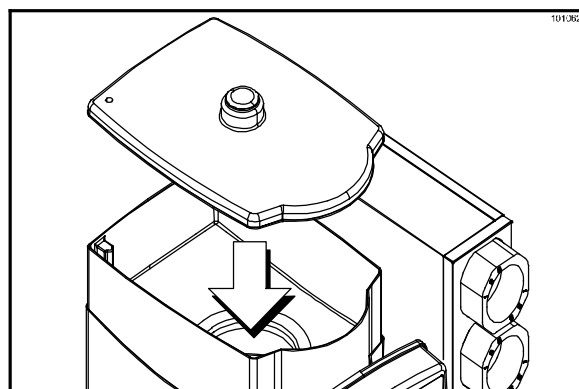

Figure 45
10. Reinstall the ice hopper cover. (See Figure 45.)